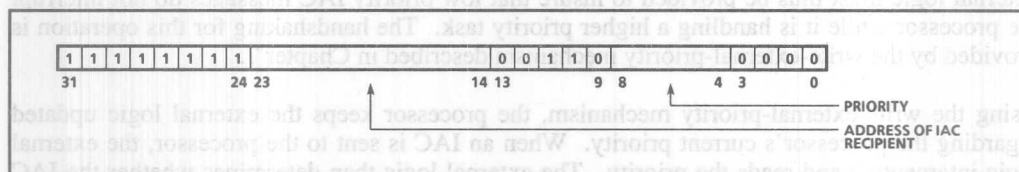

Figure 13-2: Encoding of Address for Processor Receiving an IAC
Sending an external IAC message is similar to sending an internal IAC message, except that the address of the receiving agent is specified in a slightly different way. Figure 13-2 shows the required encoding of the address for the receiving agent.
At initialization each agent on the bus is assigned a unique address in the range of FF000C00_{16} to FFFFCC00_{16} . To send an IAC to an agent, the sending agent sends the message to the address assigned to the receiving agent. As shown in Figure 13-2, only bits 14 through 23 of this address are interpreted to determine the address of the receiving agent. Bits 4 through 8 of this address are used to encode the priority of the message.
2. Execute a **synmovq** instruction to move the message from its source address to the address of the receiving agent (encoded in the form shown in Figure 13-2).